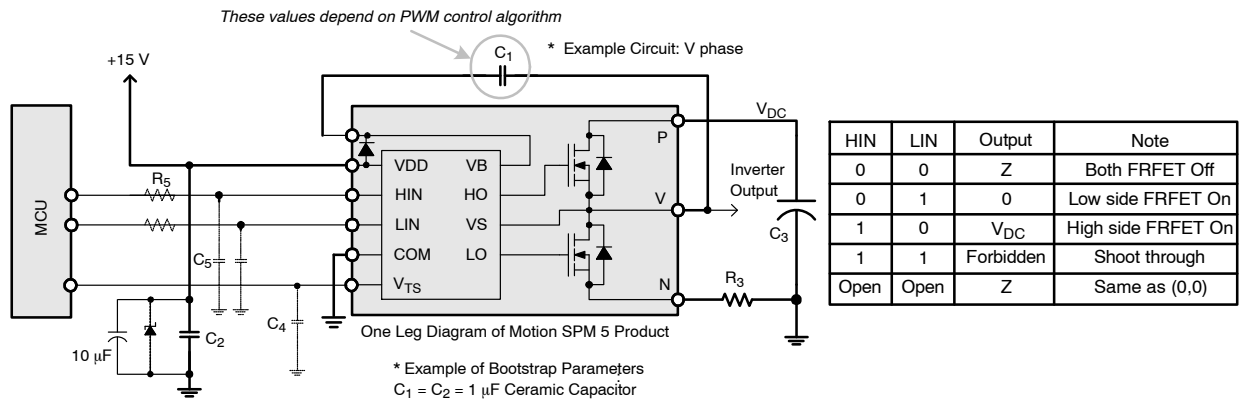

**Figure 3. Recommended MCU Interface and Bootstrap Circuit with Parameters**
- Source terminal of each low-side MOSFET is not connected to supply ground or bias voltage ground inside Motion SPM 5 product. External connections should be made as indicated in Figure 3.